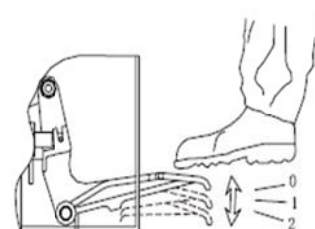
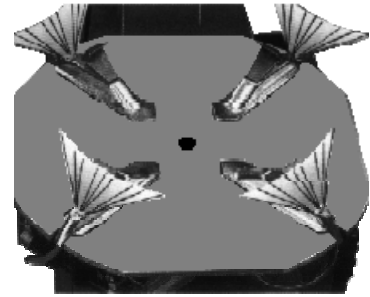

Fig 26
Fig 27
- a. Press Rapid Tire Inflation Pedal to the middle position (Fig 26, position 1), the inflating head should give air.
- b. Press Rapid Tire Inflation Pedal all the way down (Fig 26, position 2), a strong air blast should come from the holes in the four jaws' locking sliders. (Fig 27)